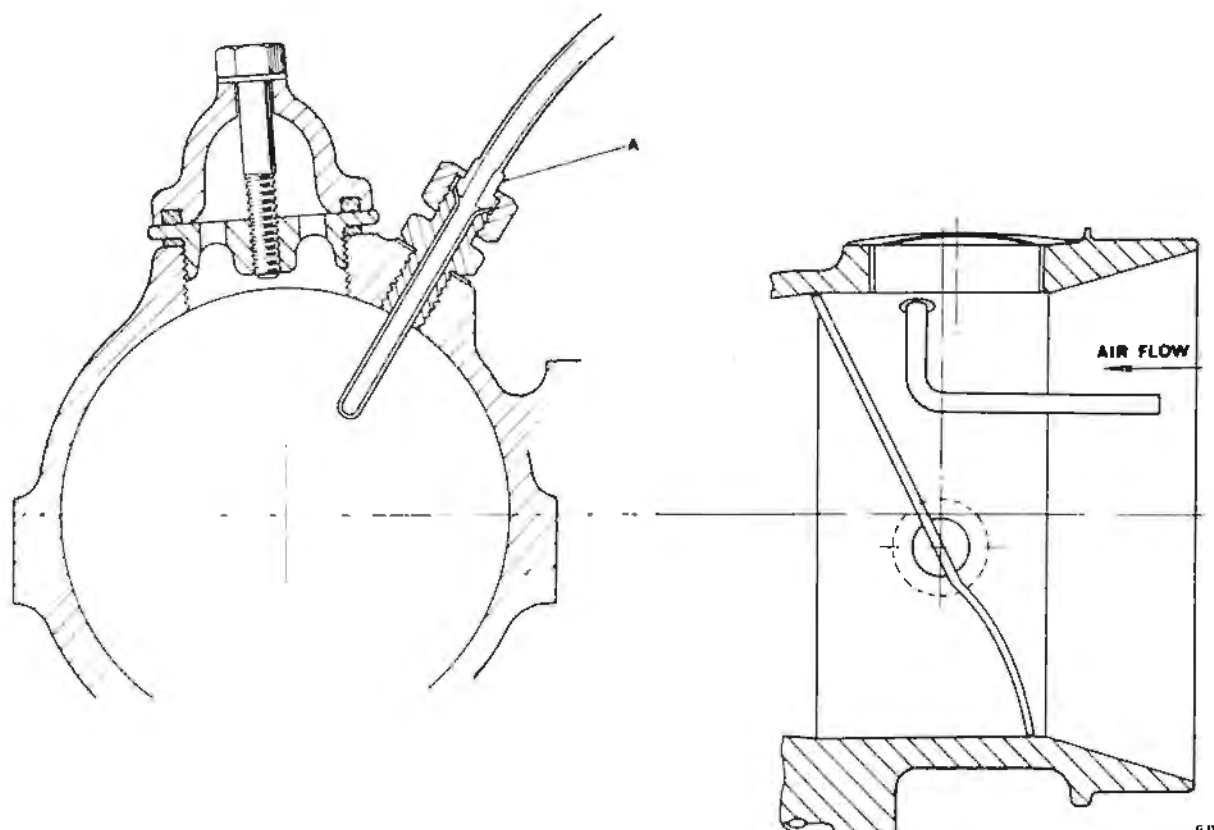

Fig.1 Diagram showing the stove pipe intake fitted forward of the oil breather outlet. 'A' shows the stove pipe nipping the swaged end of the new inlet pipe.
having a curved inlet pipe which faces directly into the incoming air stream, carrying the inlet forward of the breather outlet. This is shown in Figure 1.
9. Fit the choke stove pipes making sure that the inlet stove pipe nips the new inlet pipe in the forward position as shown in Figure 1.